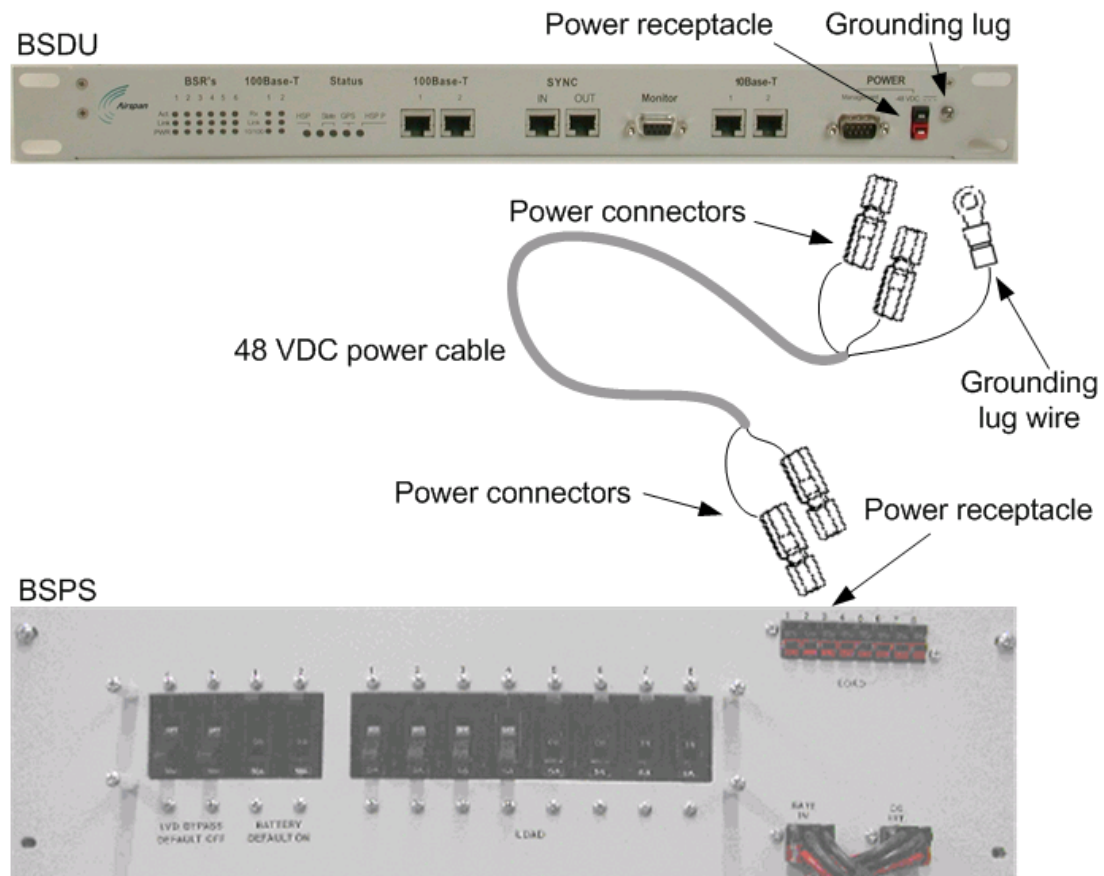

Figure 5-13: BSDU-to-BSPS power cable connections
To connect the BSDU to the power supply unit (see Figure 5-13):
1. Connect the cable's power connectors on the cable side that provides an additional wire for preventing power radiation, to the BSDU's power port labeled **POWER -48 VDC**. Ensure that the black-colored (i.e., negative) side of the connector is inserted in the upper part of the power receptacle; and the red-colored (i.e., positive) side of the connector is inserted in the lower part of the power receptacle (see Figure 5-13).
3. Connect the other end of the power cable to the power source (i.e., to the customer's power supply or to the WipLL BSPS). Ensure that the black-colored (i.e., negative) side of the connector is inserted in the upper part of the power receptacle; and the red-colored (i.e., positive) side of the connector is inserted in the lower part of the power receptacle (see Figure 5-13).